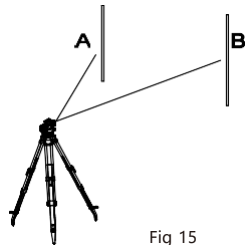

Fig 15
- (1) Direct instrument to staff A and turn Horizontal Circle to "0".
- (2) Point instrument to staff B
- (3) Read off H_z-angle from Horizontal Graduation Circle. Figure 15: H_z=43°